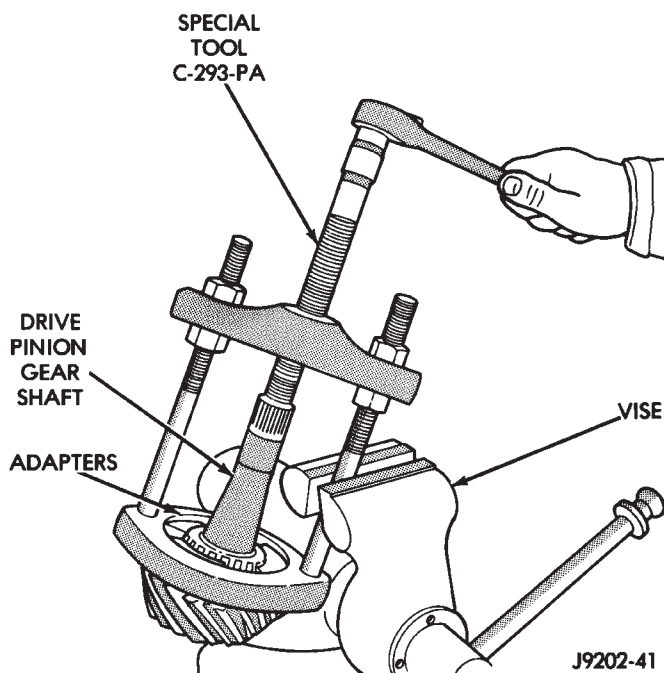

Fig. 31 Rear Bearing Removal
(13) Remove the rear bearing from the pinion (Fig. 31) with: